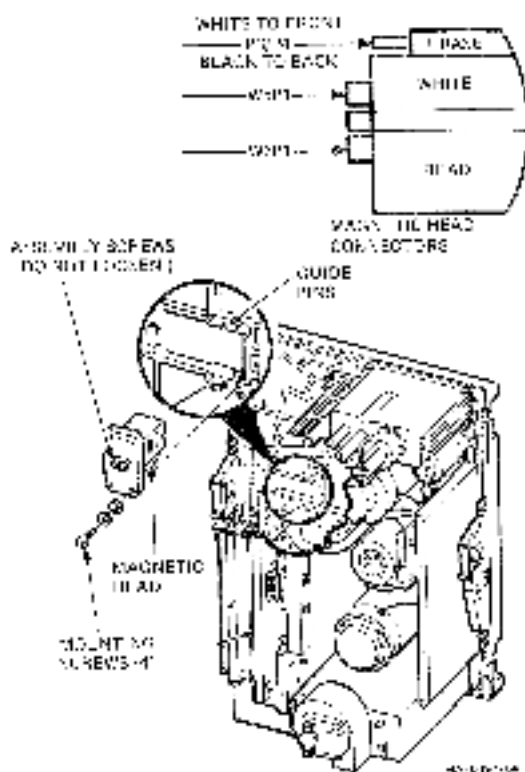

Figure 4-16 Magnetic Head Assembly
2. From the top of the transport, detach read head connector W6P1, write head connector W5P1, and erase head wires P3/P4 from the magnetic head (Figure 4-16).
Refer to Figure 4-16 for the location of the head mounting screws. Do not loosen the head assembly screws. Otherwise, you must replace the entire head with a new assembly.
4. From the top of the tape deck, attach the read, write, and erase connectors to the magnetic head (Figure 4-16). Remove the recording surface covering.